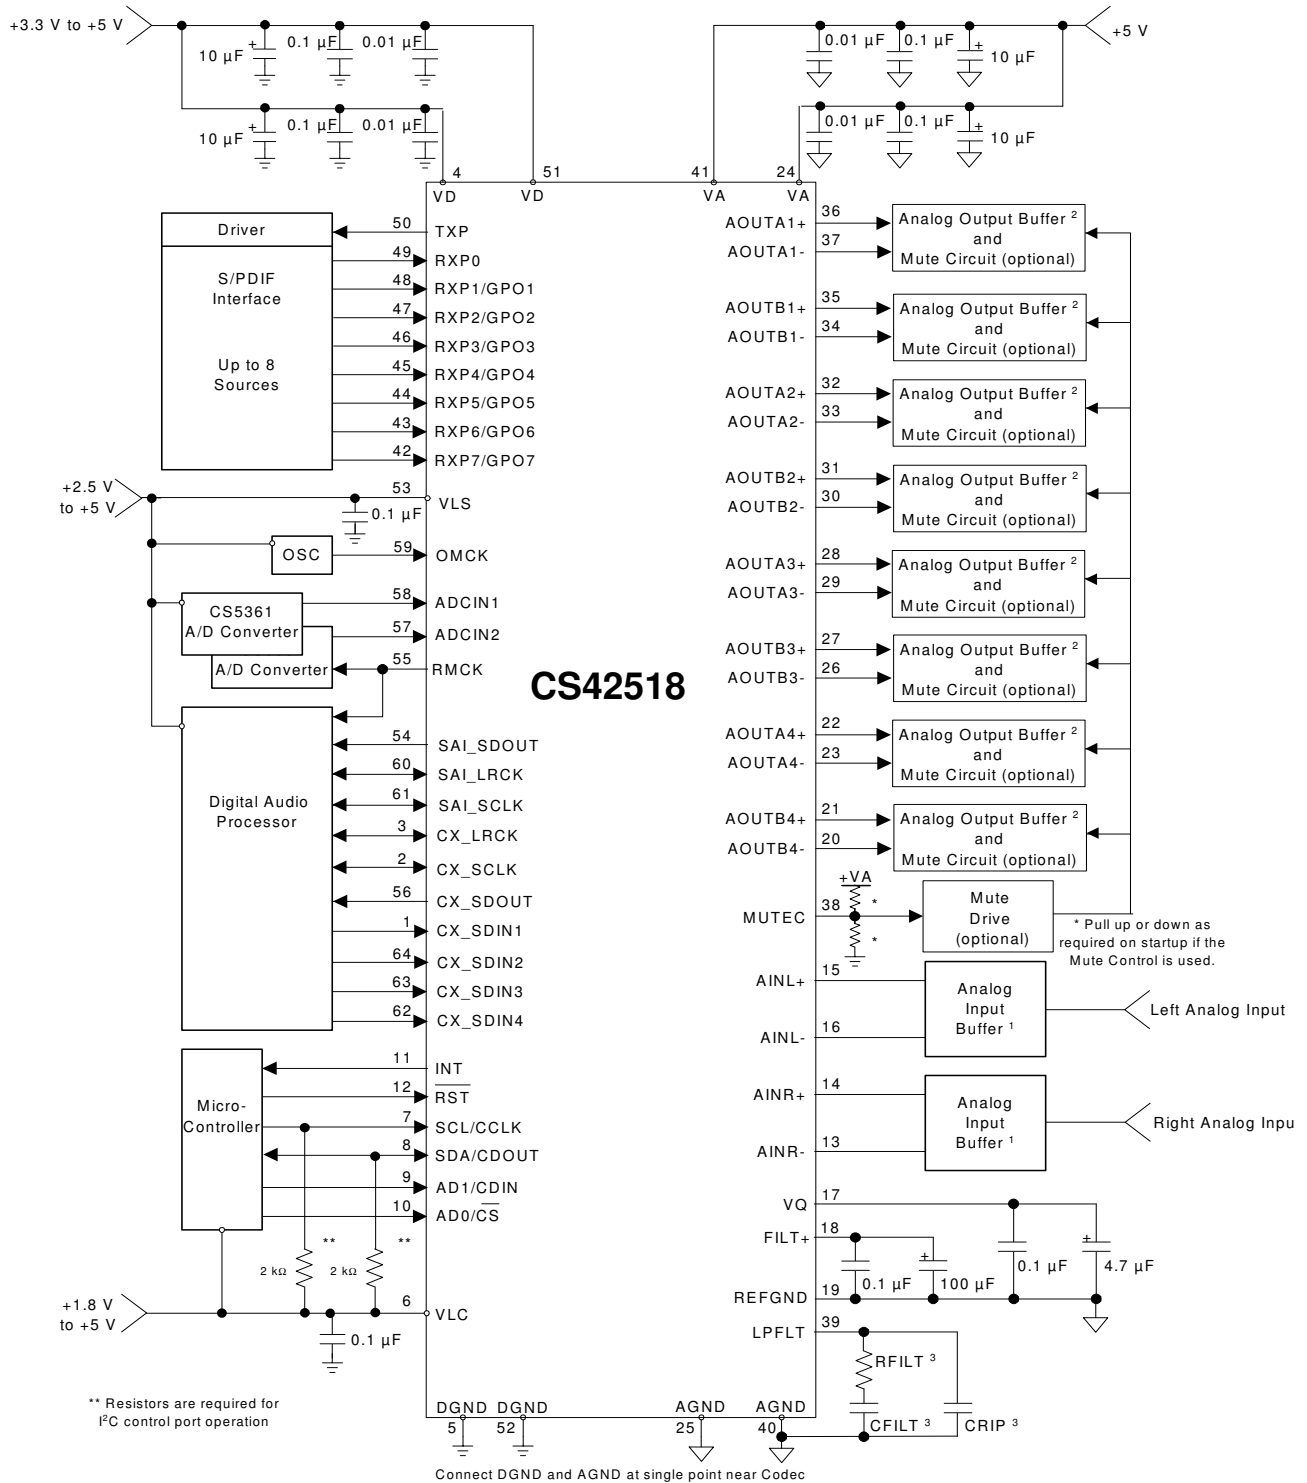

Figure 5. Typical Connection Diagram
26. Valid with the recommended capacitor values on FILT+ and VQ as shown in Figure 5.
The CS42518 is a highly integrated mixed-signal 24-bit audio codec comprised of 2 analog-to-digital converters (ADC), implemented using multi-bit delta-sigma techniques, 8 digital-to-analog converters (DAC) and a 192 kHz digital audio S/PDIF receiver. Other functions integrated within the codec include independent digital volume controls for each DAC, digital de-emphasis filters for DAC and S/PDIF, digital gain control for ADC channels, ADC high-pass filters, an on-chip voltage reference, and an 8:2 mux for S/PDIF sources. All serial data is transmitted through two configurable serial audio interfaces with standard serial interface support as well as enhanced one-line modes of operation, allowing up to 6 channels of serial audio data on one data line. All functions are configured through a serial control port operable in SPI mode or in I²C mode. Figure 5 shows the recommended connections for the CS42518.